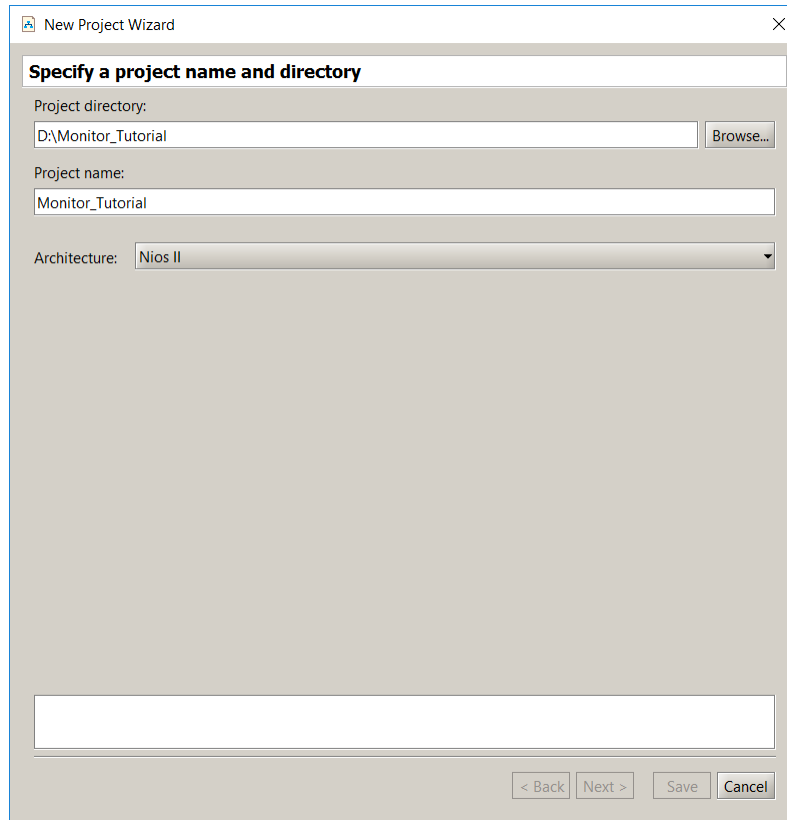

Figure 5. Specifying the project directory and name.
1. Select **File > New Project** to open the *New Project Wizard*, which leads to the screen in Figure 5. The Wizard presents a sequence of screens for defining a new project. Each screen includes a number of dialogs, as well as a message area at the bottom of the window. The message area is used to display error and information messages associated with the dialogs in the window. Double-clicking the mouse on an error message moves the cursor into the dialog box that contains the source of the error.
In Figure 5 we have specified the file system directory *D:\Monitor_Tutorial* and the project name *Monitor_Tutorial*. For simplicity, we have used a project name that matches the directory name, but this is not required.
The Monitor Program can be used with either an ARM* based system or a Nios II-based system. The choice of a processor is made in the window in Figure 5 in the box labeled Architecture. We have chosen the Nios II architecture for this tutorial.